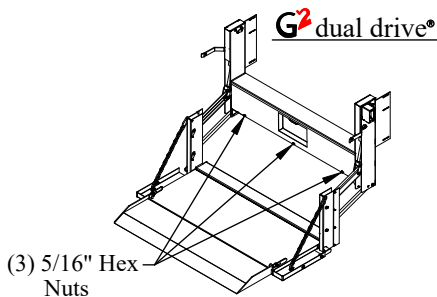

Figure 12: Box cover locations.
1. **Remove** the box cover by removing the 5/16" hex head bolts or nuts (Figure 12).